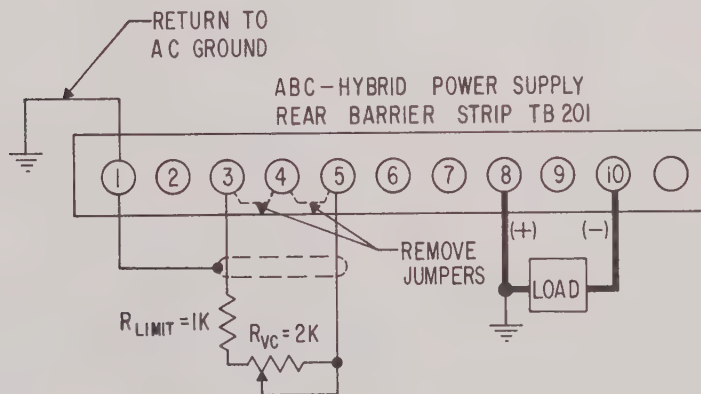

FIG. 3-5 RESISTANCE PROGRAMMING, VERNIER CONTROL
- 2) Remove links on rear barrier strip terminals (3)-(4)-(5). These links disconnect the internal voltage control from the circuit and must be carefully replaced and tightened when returning to normal operation.
- 3) Connect components as shown in FIG. 3-5. The power supply voltage may now be set with the panel control to any desired voltage within the range and can be fine controlled ± 1 volt around the pre-set value with the external vernier control.
3-24 PROCEDURE (Refer to FIG. 3-5)